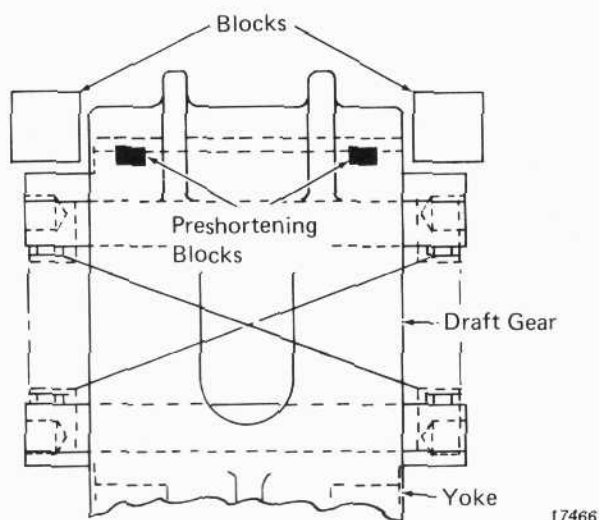

Fig. 14 - Application Of Compression Blocks
- With the gear properly placed in the yoke, and the yoke head down in the press, place two blocks on the gear rear follower on either side of the yoke butt, as shown in Fig. 14.
- Place four fibre preshortening blocks on the rear follower as shown in Fig. 14.